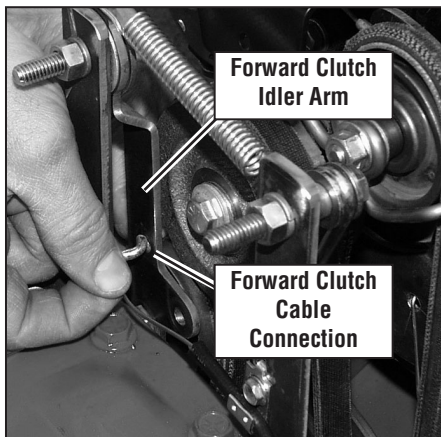

Figure 5-17
(Figure 5-17). Note the hole from which you disconnect the cable. It is important that you reconnect the cable to the same hole.
5. Reconnect the forward clutch cable to the correct hole in the idler arm bracket, as shown in Figure 5-17.